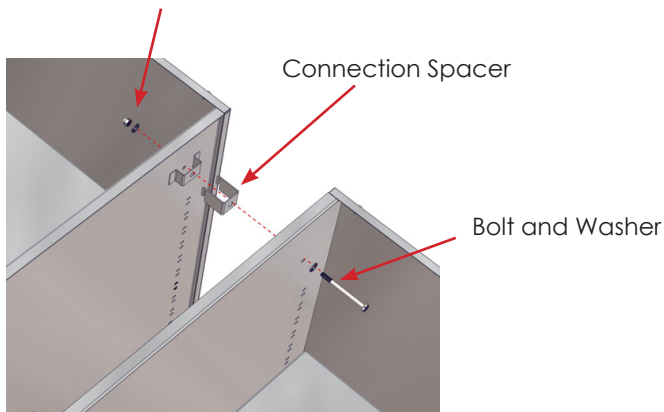

Fig. 28: Attaching the Banked Cabinets/ Rear connections
7. Place 2 Connection Spacers on the connection points at the rear of the cabinet, one on the top and one on the bottom (Fig. 28).
9. From the inside of one of the cabinets, insert the 1/4" bolt and one washer thru one of the top rear connection holes until it protrudes from the other cabinet. Secure with the washer and acorn nut. Repeat with the bottom rear connection hole (Fig. 28).